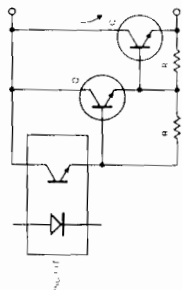

Figure 4 Two NPN Current Booster
If the load requires more current than can be obtained with the highest beta transistor available, then more than one transistor must be used in cascade. For example, suppose 3 amperes load current and 10 watt dissipation are needed. A Motorola MJE3055 might be used for the output transistor, driven by a MJE205 as shown in Figure 4. Using a 5" watt heat sink and the rated MJE3055 junction-to-case thermal resistance of 1.4 °Watt, we find that junction temperature rise is 6.4×10 , or 64°. Therefore maximum junction temperature is 124°C. This is 10 decades above 25°C making $I_{CBO} (T) = 2 \times 10^{-10} \text{ A}$.